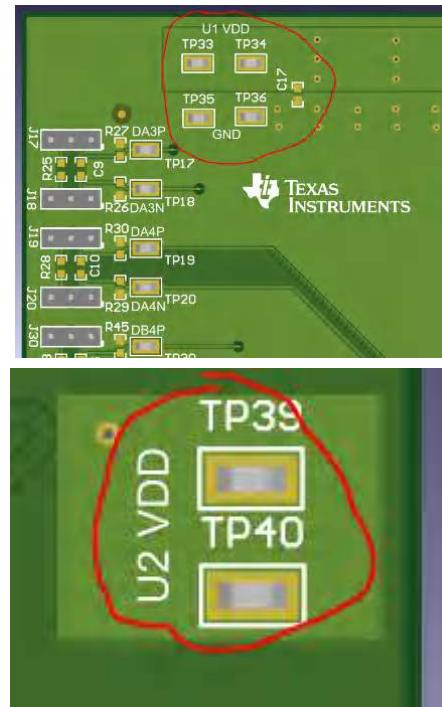

Figure 5-1. TMUX646EVM Power Connections for U1 and U2.
- Power the board by attaching a 1.65 V – 5.5 V power supply, current limited to 25 mA, with the positive terminal attached to TP33 or TP34 at the top right of the board under the label U1 VDD. Attached the negative terminal to TP35 or TP36 at the top right of the board above the label GND. The TMUX646 is now powered. To power U2, attach the positive power terminal to TP39 or TP40. Figure 5-1 below shows the test points circled in red.